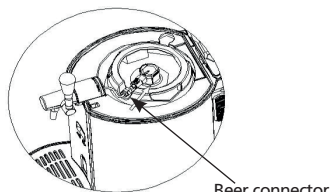

Figure 25
2. Next install the adapter that came with this Beer Cooler, (also known as the pressurized keg spout assembly) as shown on the keg instructions (Figures 23 and 24) and then connect the adapter to the dispense fitting on the dispense tap. (Figure 25)